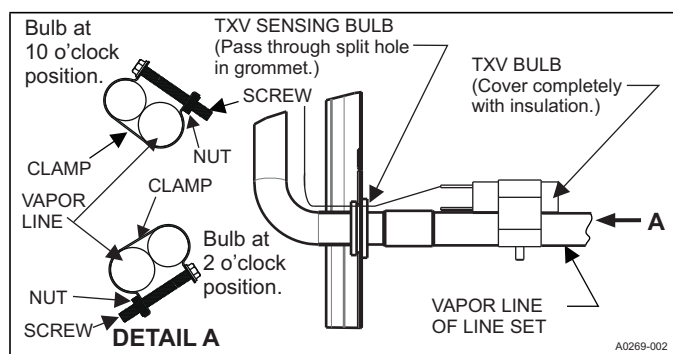

FIGURE 8: Proper Bulb Location
- a. If possible, install the temperature bulb on a horizontal run of the vapor line. Ensure that the bulb is installed at a 10 o'clock or 2 o'clock position. See Figure 8.